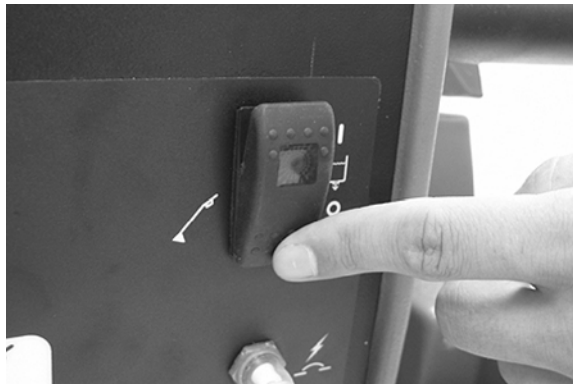

FIG. 15
1. Turn the key to the on (I) position.
2. Press the solution switch towards the accessory tool symbol, off (O) position (Figure 15).